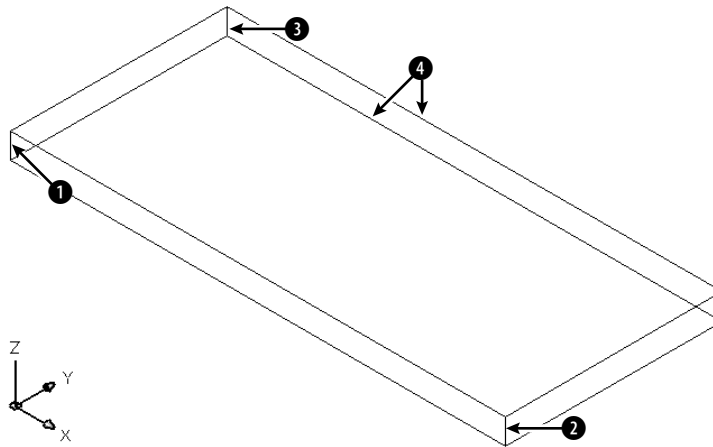

**Figure 24-47:** You can chamfer this solid box to create a new shape.
2. Save the file as ab24-16.dwg in your AutoCAD Bible folder. This is a simple box with dimensions of 233×102×12 millimeters, as shown in Figure 24-47.
Select first line or [Undo/Polyline/Distance/Angle/Trim/mEthod/Multiple]: *Pick the edge at ❶ in Figure 24-47.*